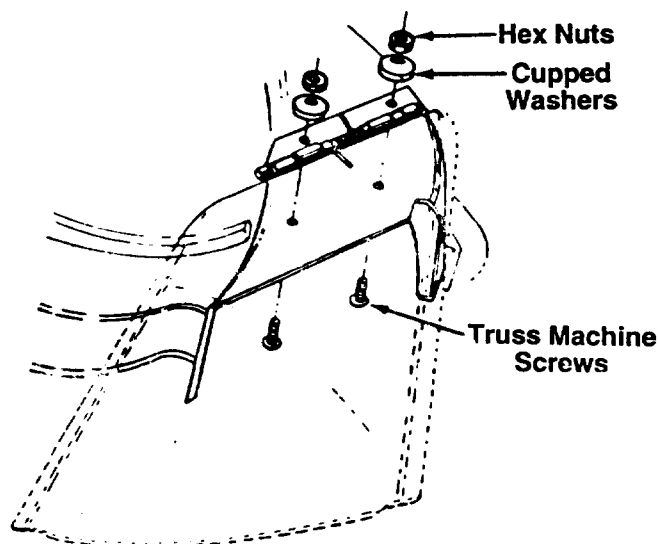

FIGURE 6.
2. Place the chute deflector in position as shown in figure 6. Secure with hardware just removed.